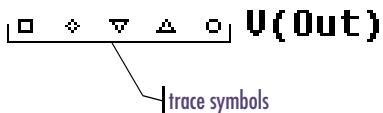

Figure 114 Trace legend symbols.
- 1 In the trace legend, double-click the symbol for the trace you want to identify (Figure 114).